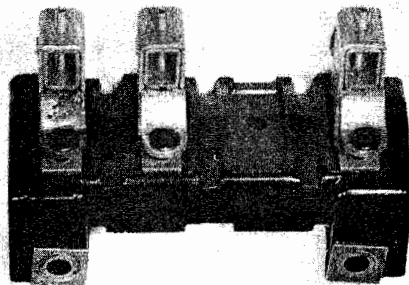

Figure 2. Contact Assembly Unmodified
2. Carefully withdraw the assembly. The assembly should appear as shown in figure 2.